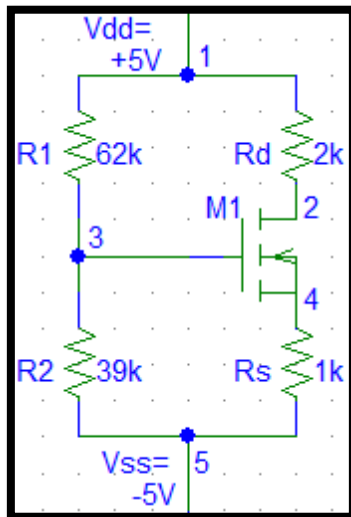

Figure 1. NMOS Circuit
Calculate I_D , V_{GS} and V_{DS} for the circuits in Figures 1 through 4.
- ❑ Build the circuit shown above in Figure 1 using a transistor provided by your teaching assistant and available resistors.